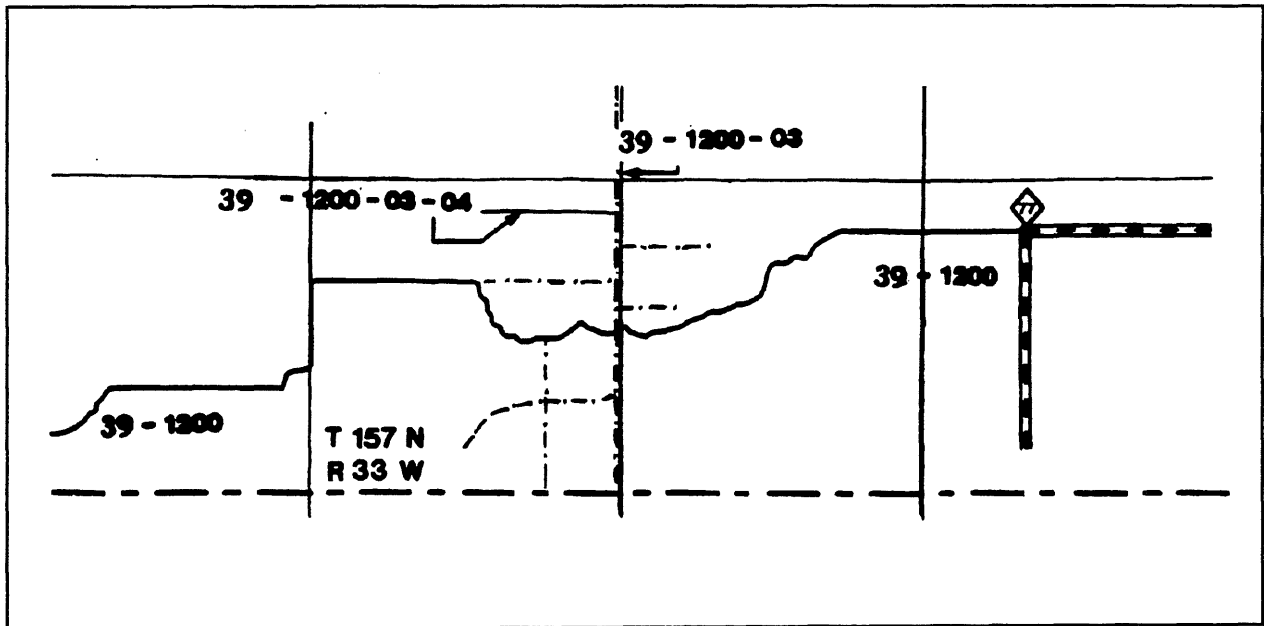

FIGURE NO. 4
The roads that branch from the collectors are local forest roads (locals). The local will carry the same county, arterial and collector numbers as the collector they logically branch from. In addition, each local will carry a two (2) digit designation of its own. The locals will be numbered consecutively in the order of the intersection with the collector, with spaces left to accommodate future additions as necessary. See Figure No. 4.